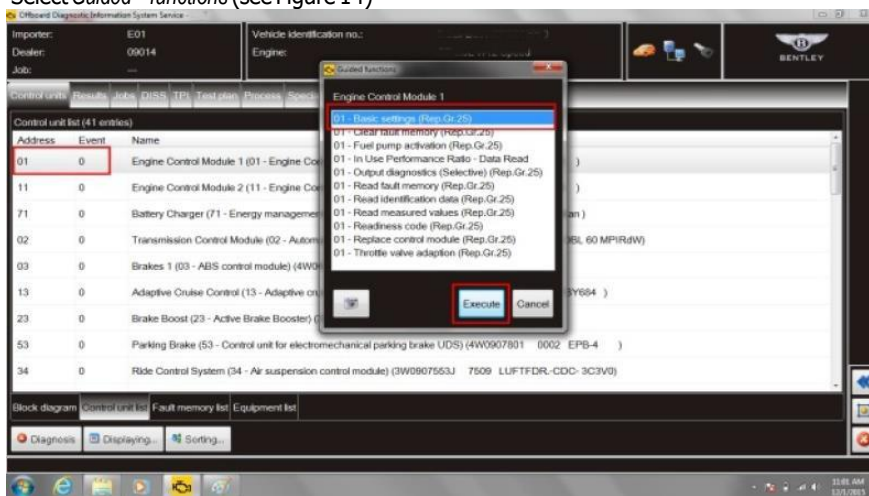

Figure 15
2. Within Engine Control Module 1, Select *01-Basic settings* and then *Execute* (see Figure 15)